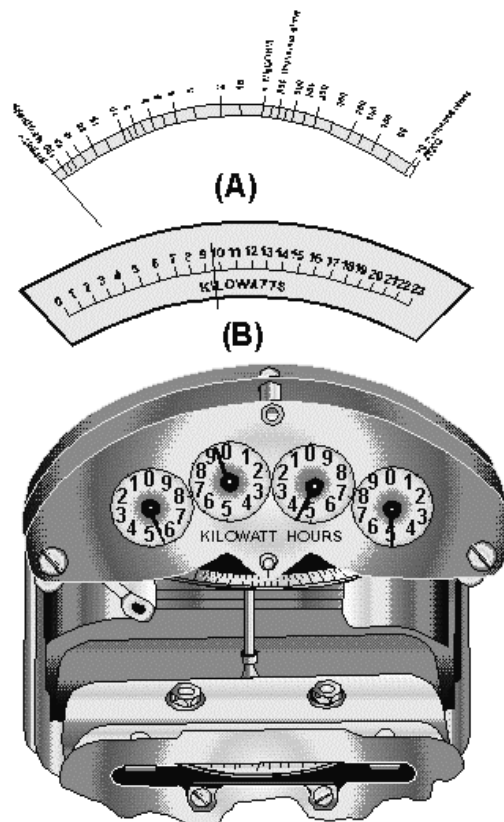

Figure 1-51.—Meter reading practice.
- Q68. What type of meter is shown and what is the value of the quantity being measured for each meter in figure 1-51?
- Q69. If the insulation of a conductor was being measured in figure 1-51 (A), would the reading indicate a good insulation?